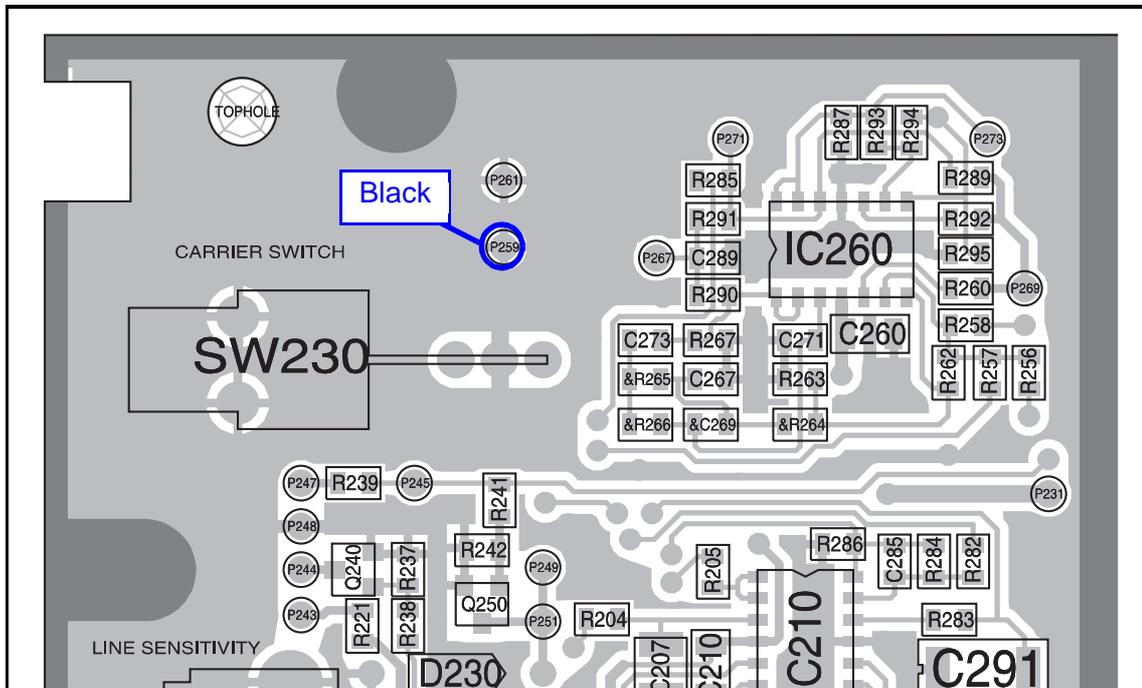

Figure 4 Top of T836 Audio Section
8. Connect the black wire (GND) to P259, P261, or P263 (see Figure 4).